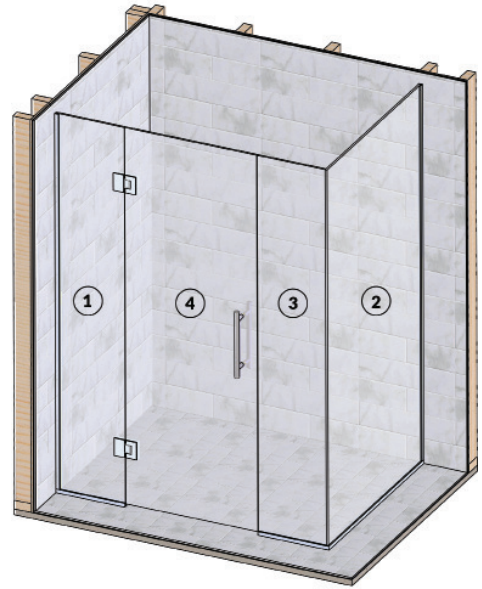
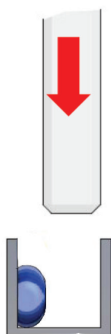

FIG 5.
FIG 6.
- When panels are correctly aligned, remove panel 1 (FIG 5) and run a thick continuous line of silicone down the inside of the wall channel (FIG 6) and apply liberally in the wall to floor channel join and along the floor channel to the length of the glass panel.